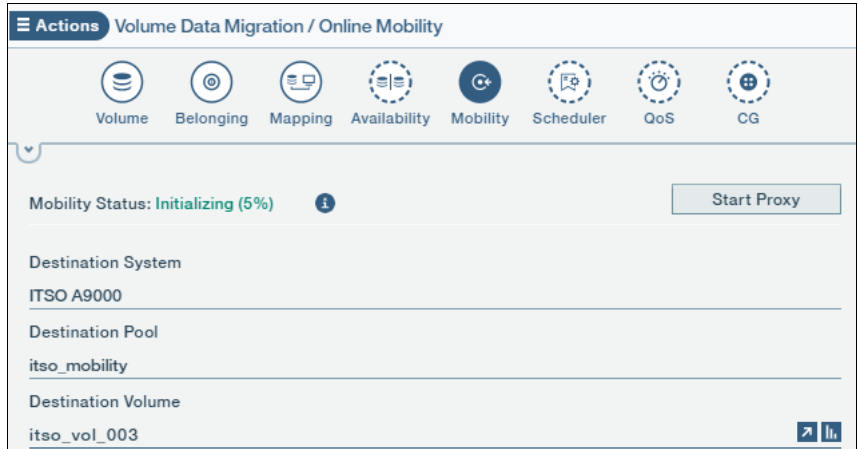

Figure 7-36 Initialization from element manager
- By selecting Active when creating the relationship, the initialization phase will begin as soon as Create is selected. The process will run serially if more than one volume is defined. Examples of what can be seen during this phase is shown in Figure 7-36 and Figure 7-37.